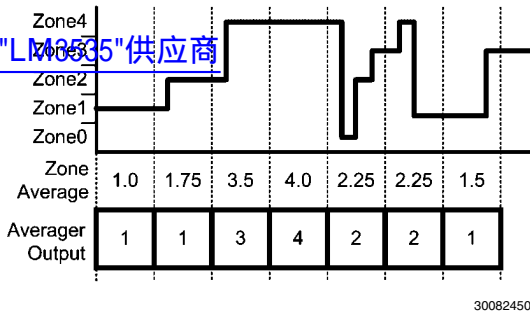

FIGURE 16. Averager Calculation
- The Averager will always round down to the lower zone in the case of a non-integer zone average (1.2 rounds to 1 and 1.75 also rounds to 1). Figure 16 shows an example of how the Averager will make the zone decisions for different Ambient conditions.